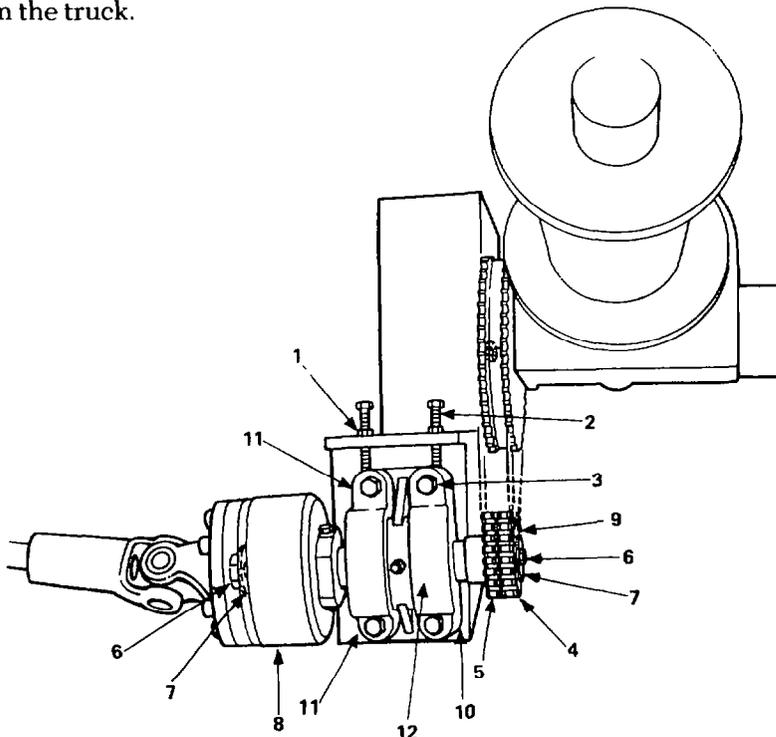

Fig. 388 — Removal of Support Bearing Assembly
- a. Loosen the two locknuts (fig. 388, item 1), two set screws (item 2) and the four bolts (item 3).
- b. Remove the master link (item 4) then remove the drive chain (item 5) from the unit; cut and remove the lock wire then remove the two retaining bolts (item 6) and keeper (clamp) plates (item 7).
- c. Slide the torque limiter (item 8) and sprocket (item 9) off the shaft (item 10), then remove the two parallel keys.
- d. Remove the four bolts (item 3), spring washers and two blocks (item 11), then remove the complete bearing assembly (item 12) from the housing.
2. Align the chain until the sprockets (fig. 388, items 9 and 13) are in the same vertical plane, before tightening the retaining bolts.